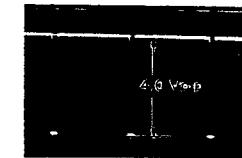

Fig. 2-1
(1) Connect an oscilloscope to TP-1 on SG BOARD BASE (75 Ω termination).
(2) Adjust R44 (SYNC LEVEL) so that a voltage of 4 Vp-p ± 0.2 V is obtained as shown in Fig. 2-1.